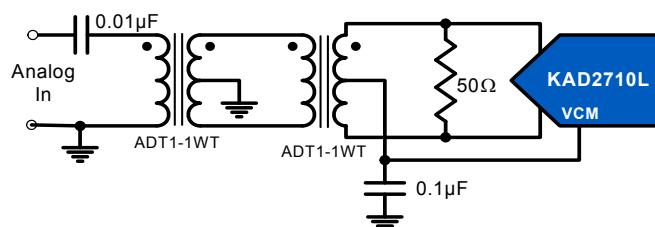

FIGURE 23. TRANSFORMER INPUT, GENERAL APPLICATION
Best performance is obtained when the analog inputs are driven differentially. The common-mode output voltage, VCM, should be used to properly bias the inputs as shown in Figures 23 and 24. An RF transformer will give the best noise and distortion performance for wideband and/or high intermediate frequency (IF) inputs. Two different transformer input schemes are shown in Figures 23 and 24.